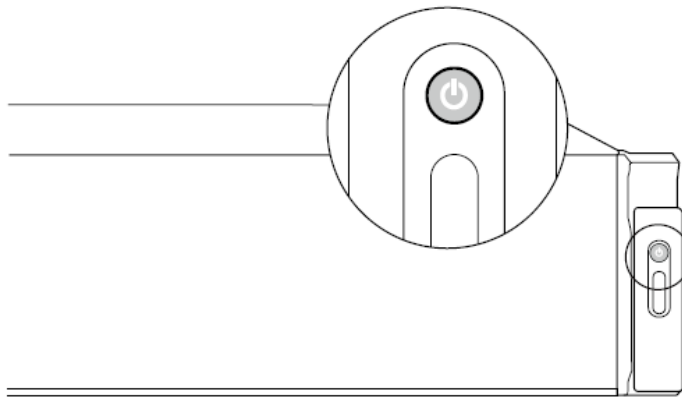

Figure 3-6: Power Button
Step 2: Push the power button (**Figure 3-6**).